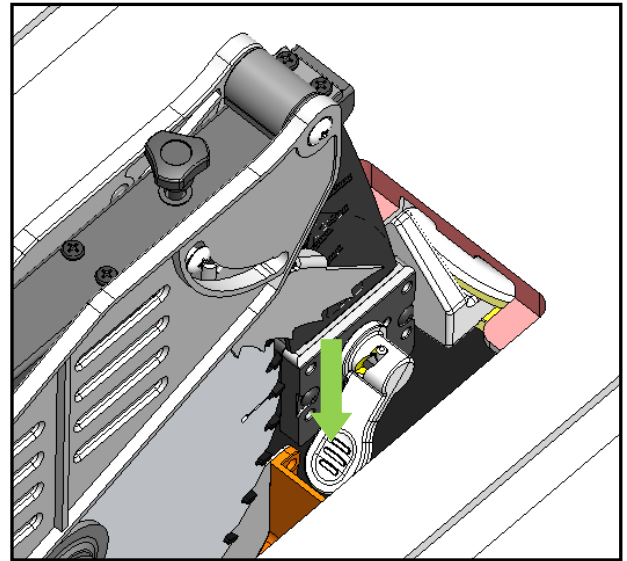

Fig. 3
3. Insert the spreader into the bracket slot and push down the handle, Fig. 3 to lock the spreader.